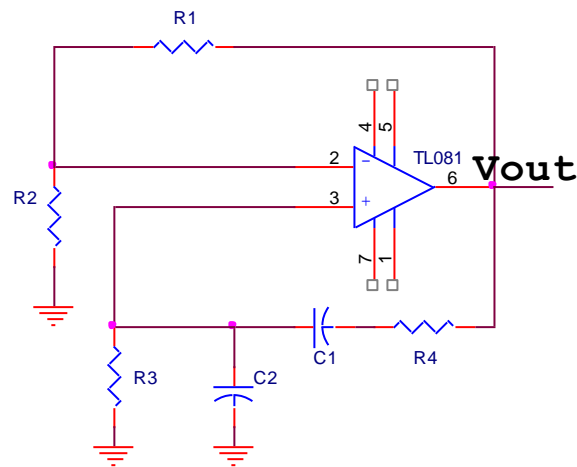

Figure 7
- 1. Use an electronic simulation program such as EWB or OrCAD and simulate the result of Fig7 and record the components values and the output simulated results**